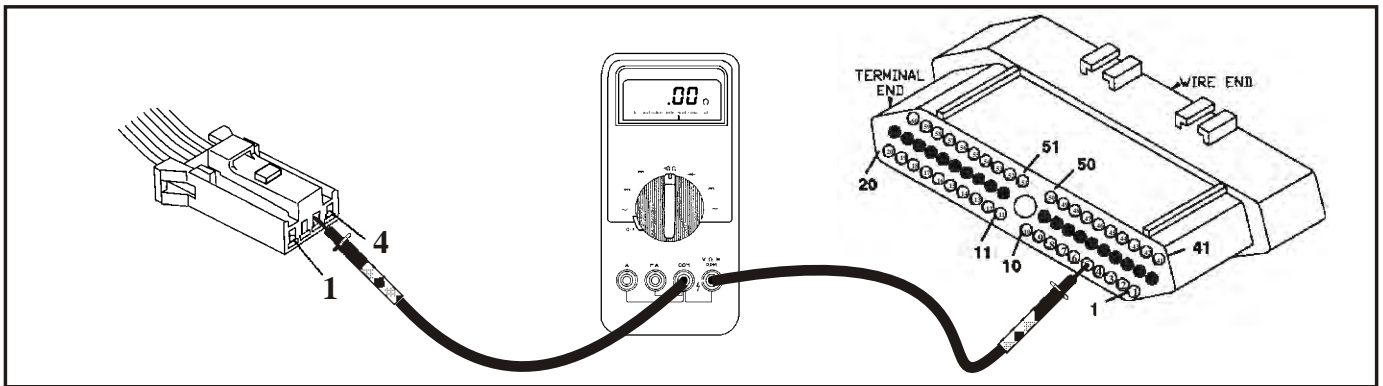

Figure 69
- Unplug the TCM and perform a continuity check from terminal 3 in the Autostick connector to terminal 5 in the TCM (See Figure 69). If continuity is seen, move to the next step. If continuity is not seen, the wire is severed. Repair or replace the wire.